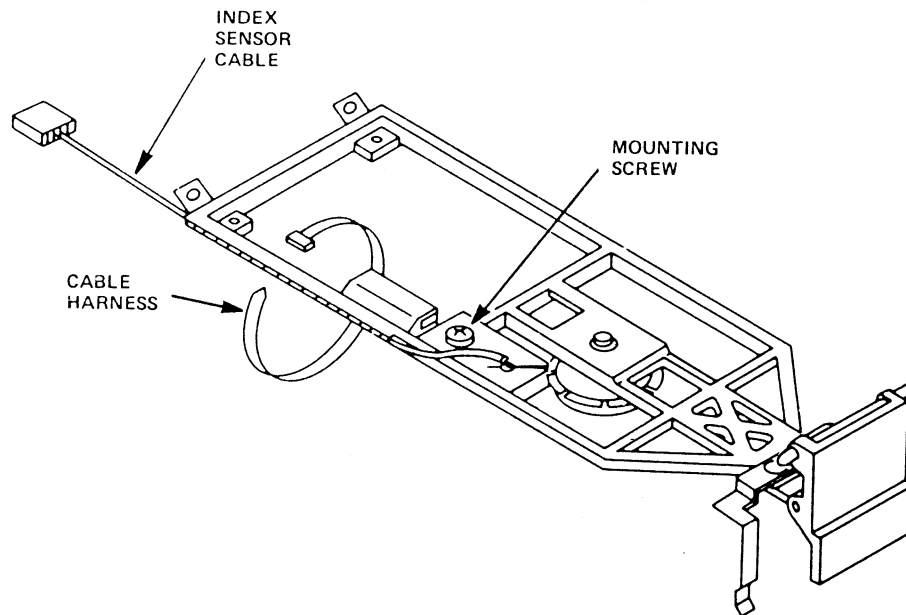

Figure 5-15
5.9.2 Remove the harness that attaches the index emitter sensor cable to the Cone Lever Assembly (see Figure 5-15).
- 5.9.12 After turning the disk drive upright, position all sensor cables (see Figures 5-15 and 5-17), and smooth them out.